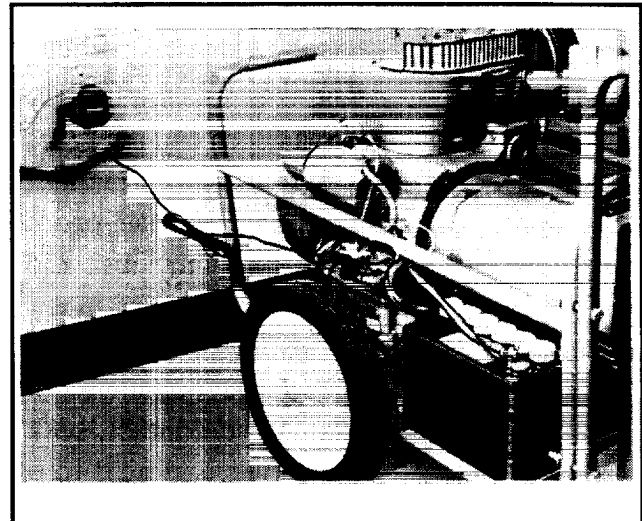

Figure 4. Plugging in Charger Module
5. Plug battery charger module into a 120-Volt outlet. See Figure 4.